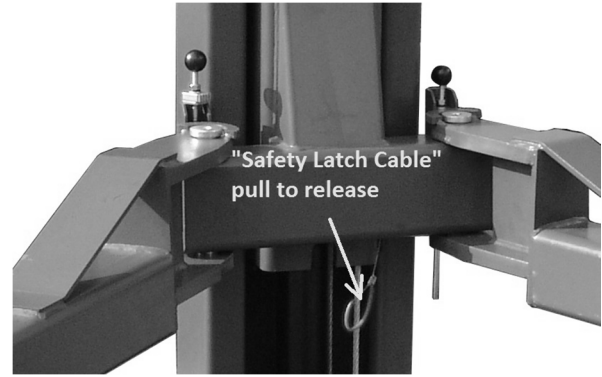

Fig. 24
- 2 To lower the lift, both carriage's safety latch releases must be manually pulled down to be released to lower lift (**Fig.24**). The latches will automatically reset once the lift ascends approximately 17" from base.